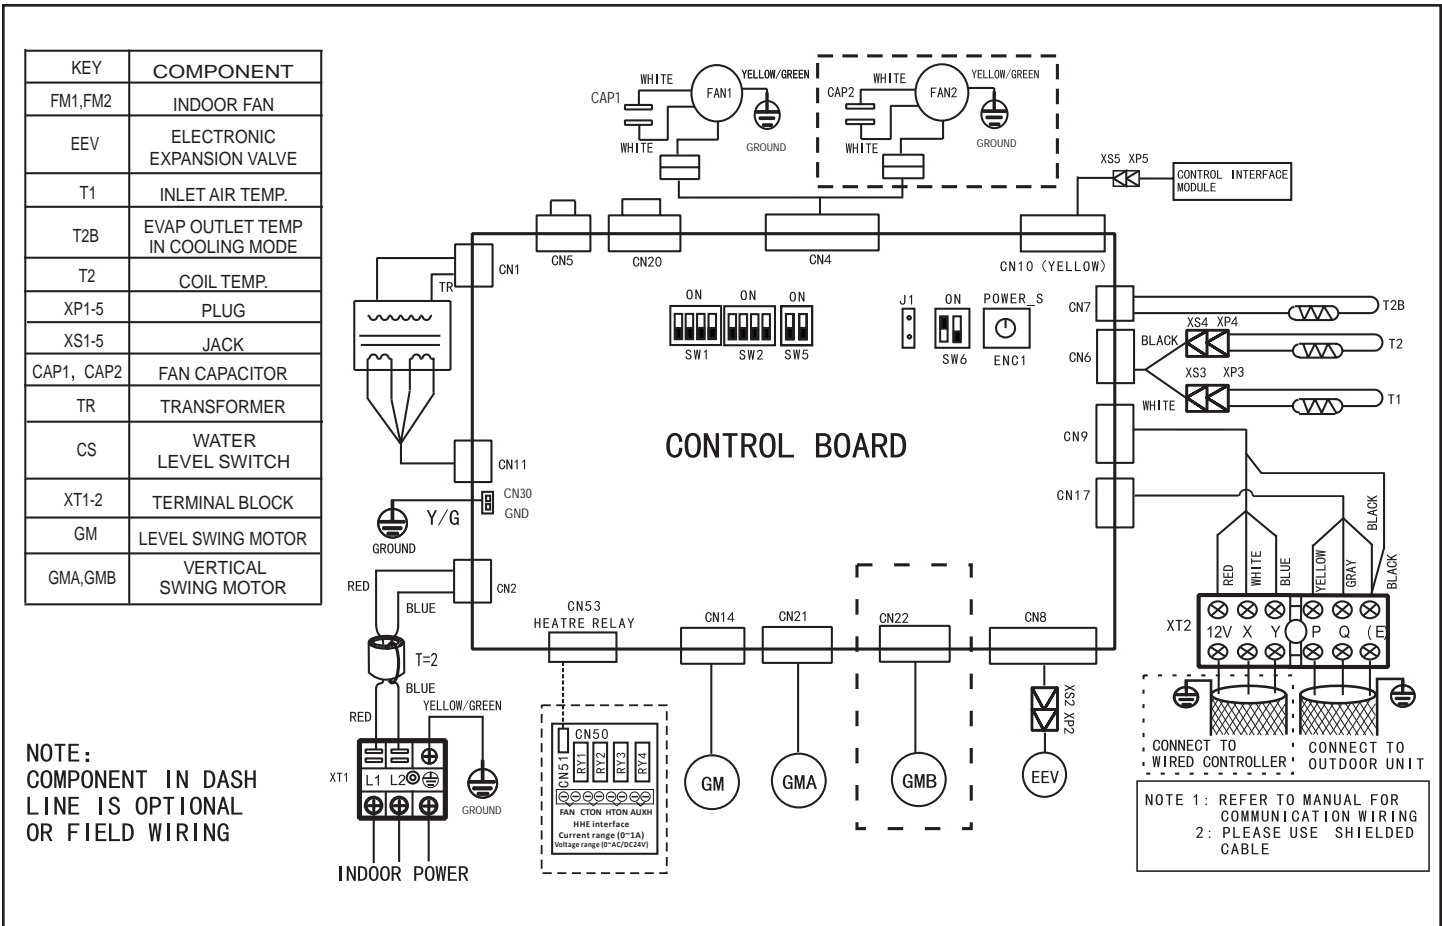

Figure 14. VCFA012-48S4-2 Wiring Diagram
7. If the indoor unit is the final unit in a group that is wired in series, install the provided resistor across terminals P and Q. See figure 14.